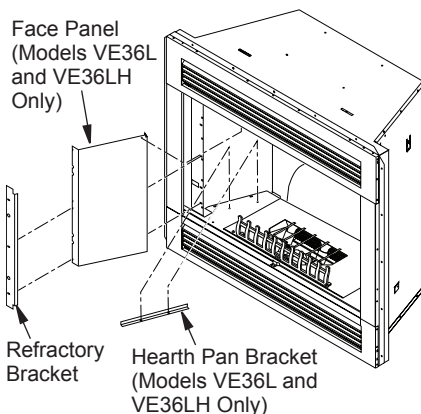

Figure 19 - Removing Refractory Bracket and Hearth Pan Bracket
4. Remove two screws holding each refractory bracket to firebox. Pull up and lift out of positioning slot at bottom of hearth pan (see Figure 19, page 10). *Note:* VE36L and VE36LH models require removal of additional hearth brackets and face panels which are held in place by 2 screws on hearth pan and one screw at top retainer bracket (see Figure 19, page 10).